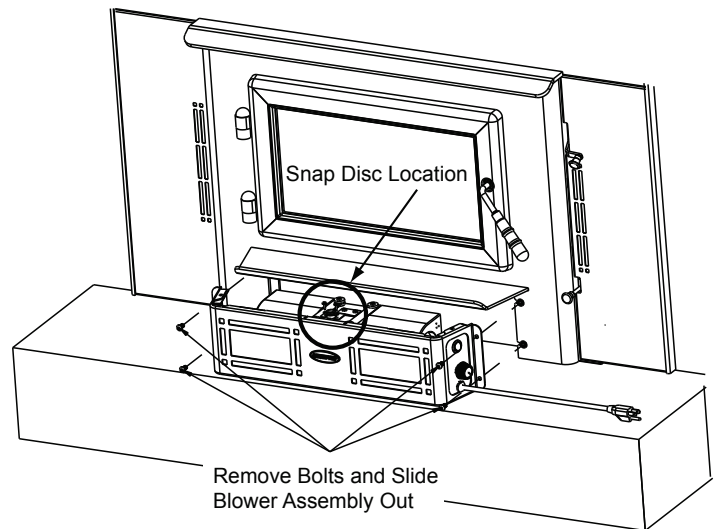

Figure 26.3 - Snap Disc Location
1. The snap disc bracket assembly is located on top the blower housing in the center (**Figure 26.3**).